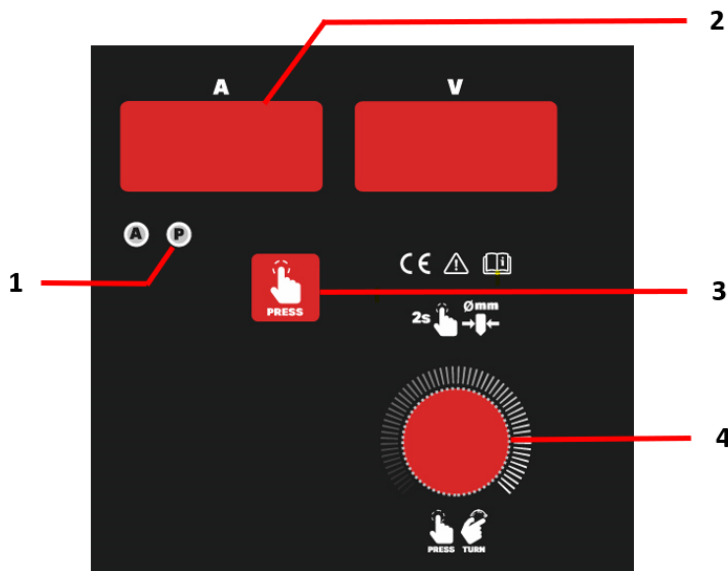

Fig. 7 – Welding memories
- adjust your parameters and press key button (Fig.7 – 3) until LED P (Fig.7 – 1) lits. Then press parameters adjustment turning button (Fig.7 – 4) for 2 seconds until digital display shows P1. Then turn parameters adjustment turning button, the digital display shows MEM.
- Press key button (Fig.7 – 3) until LED P (Fig.7 – 1) lits. Then turn parameters adjustment turning button (Fig.7 – 4) to the desired memory number. Wait 2 seconds are your memory is available.